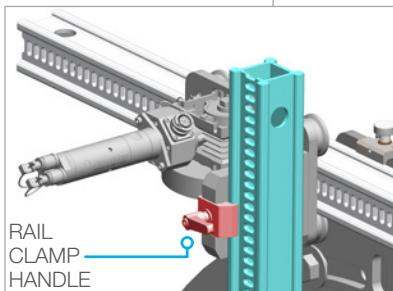

FIGURE 7
- Loosen the **Rail Clamp Handle** on the Horizontal Drive. Align the Idler Carriage on the lower rail so the Vertical Rail can slide into it. Slide the **Vertical Rail** with (**slots facing out**) down through the Horizontal Drive clamp and between the rollers on the idler carriage. Adjust the position of the vertical rail as required and secure the rail in place by tightening the **Rail Clamp Handle** on the Horizontal Drive. (Figure 7)